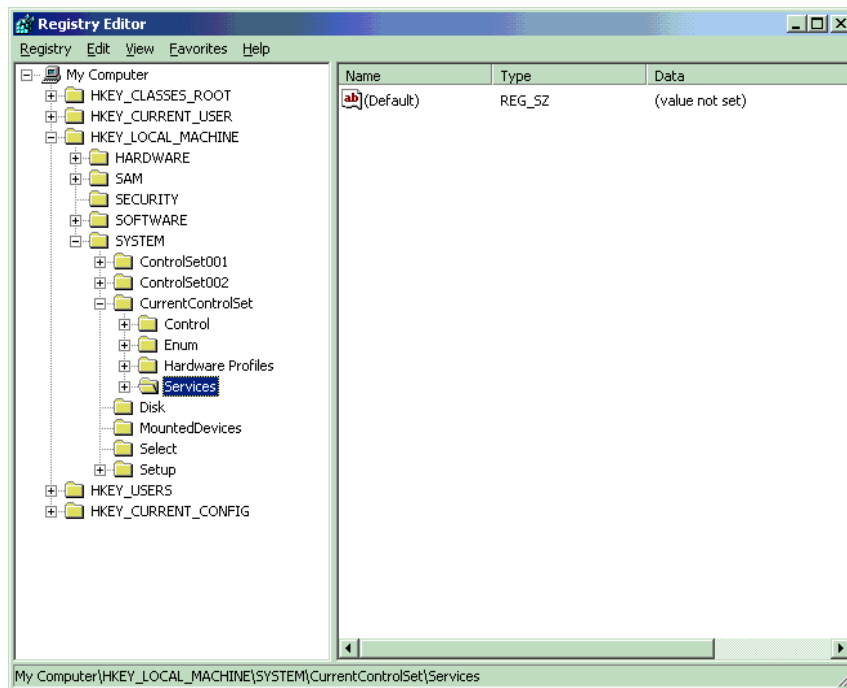

Figure 44: Windows NT Registration Editor
*HKEY\_LOCAL\_MACHINE/System/CurrentControlSet* and select *Services* (see Figure 44).